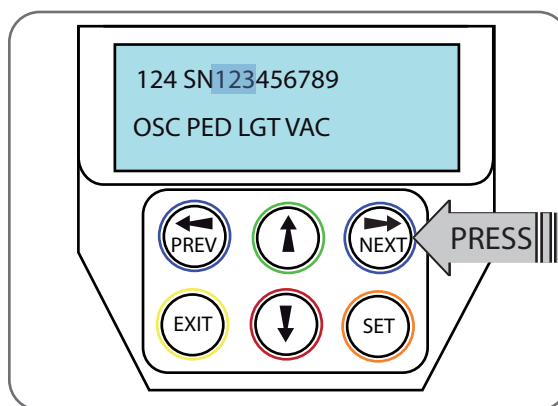

Fig F.4
- Press NEXT to reveal the Serial Number (**Fig. F.4**).